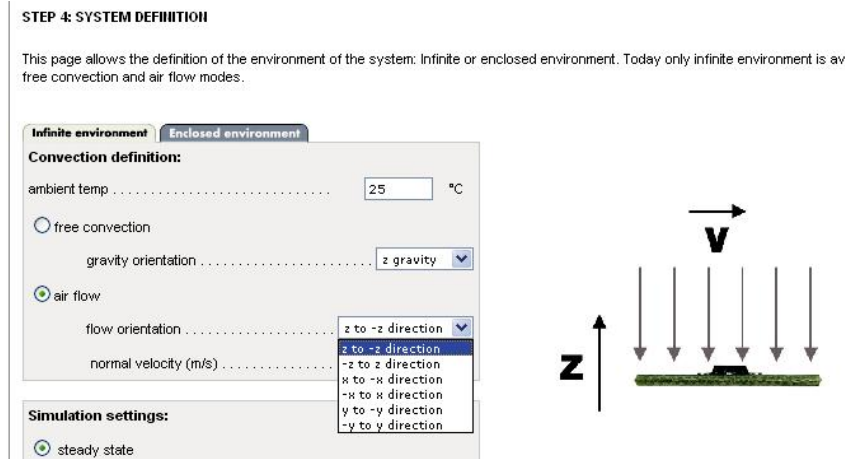

Figure 36.
- **Z to -Z direction** for air blowing on top of the component (see Figure 36).